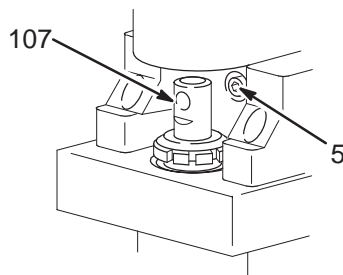
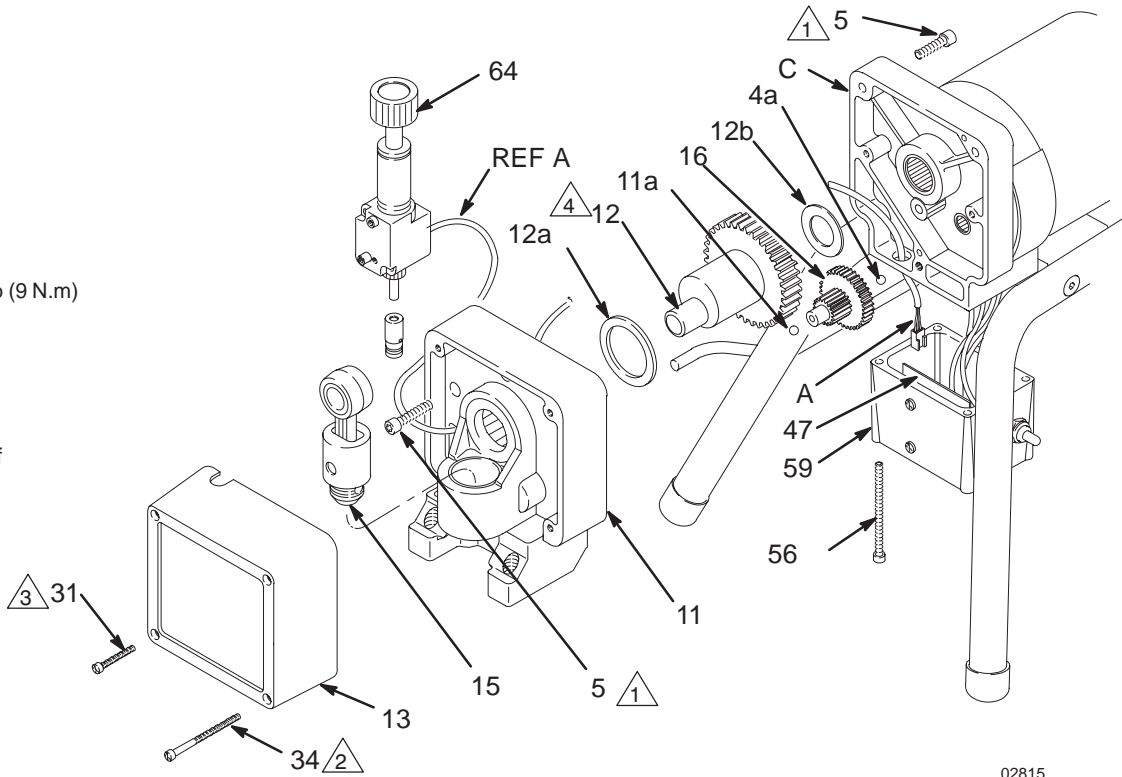

Fig. 23
Fig. 24
2. Remove the pressure control (64). See page 26.
3. Turn the displacement pump rod (107) so the pin hole aligns with the bottom drive housing screw (5). See Fig. 23. Remove the three drive housing screws (5). Also see Fig. 24 on page 25.
4. Remove the two motor screws (5). See Fig. 24 on page 25.
5. Tap the lower rear of the drive housing (11) with a plastic mallet to loosen the motor. Pull the drive housing straight off the motor.